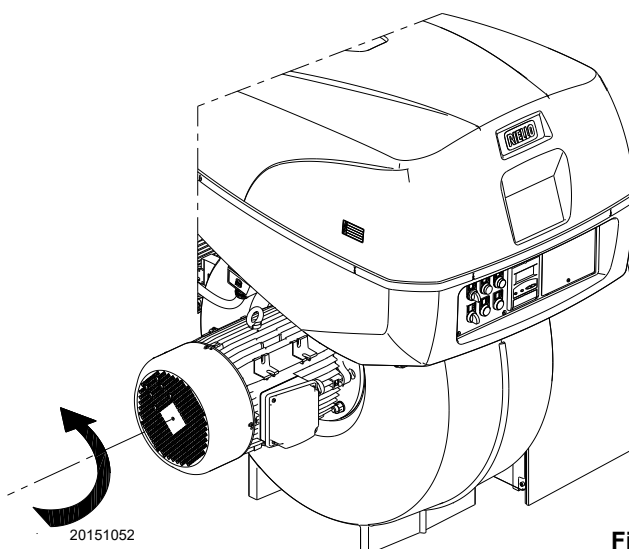

Fig. 47
When the burner starts, check the direction of the motor rotation, as indicated in Fig. 47.
- place the switch of Fig. 47 in position “OFF” and wait for the control box to carry out the switch-off phase;
The arrival of gas at the pipe coupling is indicated by the U-type pressure gauge (Fig. 47).